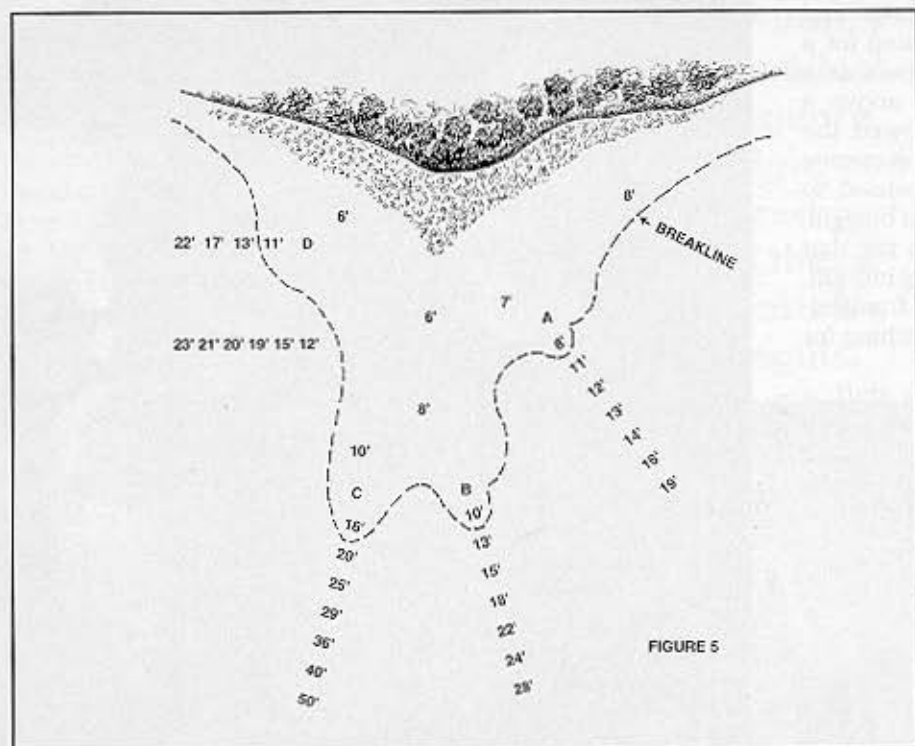

FIGURE 5
Figure 5 is a top view of a wide sweeping bar ("structure situation") with a "breakline" (an area on the bottom where there is a sudden or more rapid increase or decrease in depth). The breakline is rather crooked and has several extrusions or "fingers". The "fingers" have been
In figure 5, finger "A" has a three (3) foot break (8 to 11 ft.). The depth figures show the bottom is rather shallow and flat off this finger (depth increases slowly).